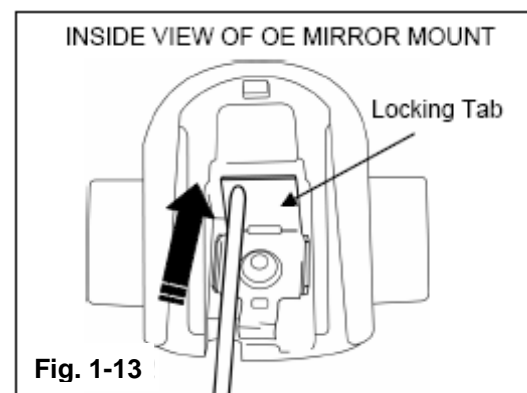

Fig. 1-13
- g) Push on locking tab while performing the next step. **(Fig. 1-13)**